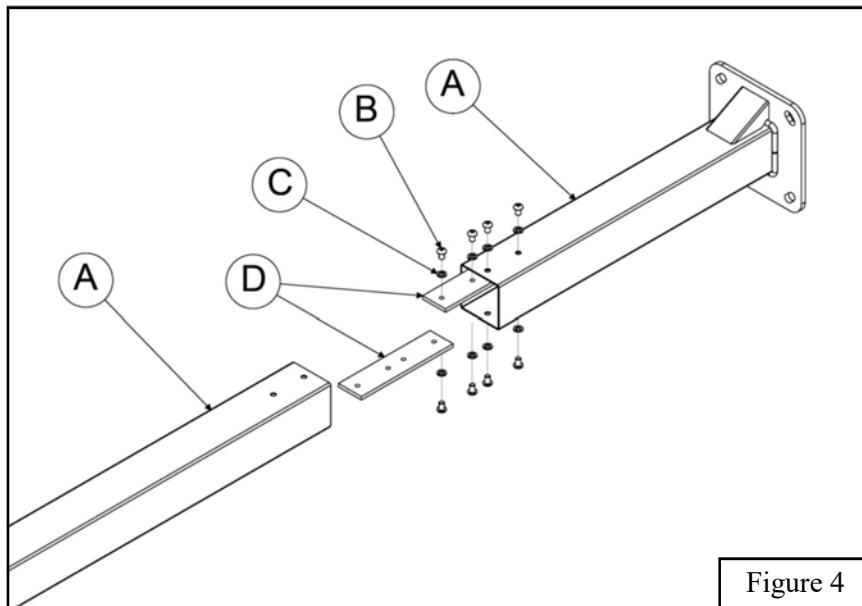

Figure 4
- 2b. Your pole is shipped in 2 sections reducing freight costs and handling difficulty and increasing pole rigidity. The lower section has a 12" square pedestal base. Lay the two different *Pole Sections* (A) end to end with the drilled holes adjacent to each other. See Figure 4.
- 3b. Using the *1/2" Button Head Screws* (B), *1/2" Lock Washers* (C), and *5/16" Hex Key* (FF) loosely attach two *Pole Connector Bars* (D) to the inside of the end of the lower *Pole Section* (A). See Figure 4.
- 4b. Slide the other *Pole Section* (A) over the two *Pole Connector Bars* (D) up against the partially assembled *Pole Section* (A). See Figure 4.
- 5b. Using the remaining *1/2" Button Head Screws* (B) and *1/2" Lock Washers* (C), attach the upper *Pole Section* (A) to the *Pole Connector Bars* (D). See Figure 4.
- 6b. Tighten all *1/2" Button Head Screws* (B) only when the two *Pole Sections* (A) fit tightly together.